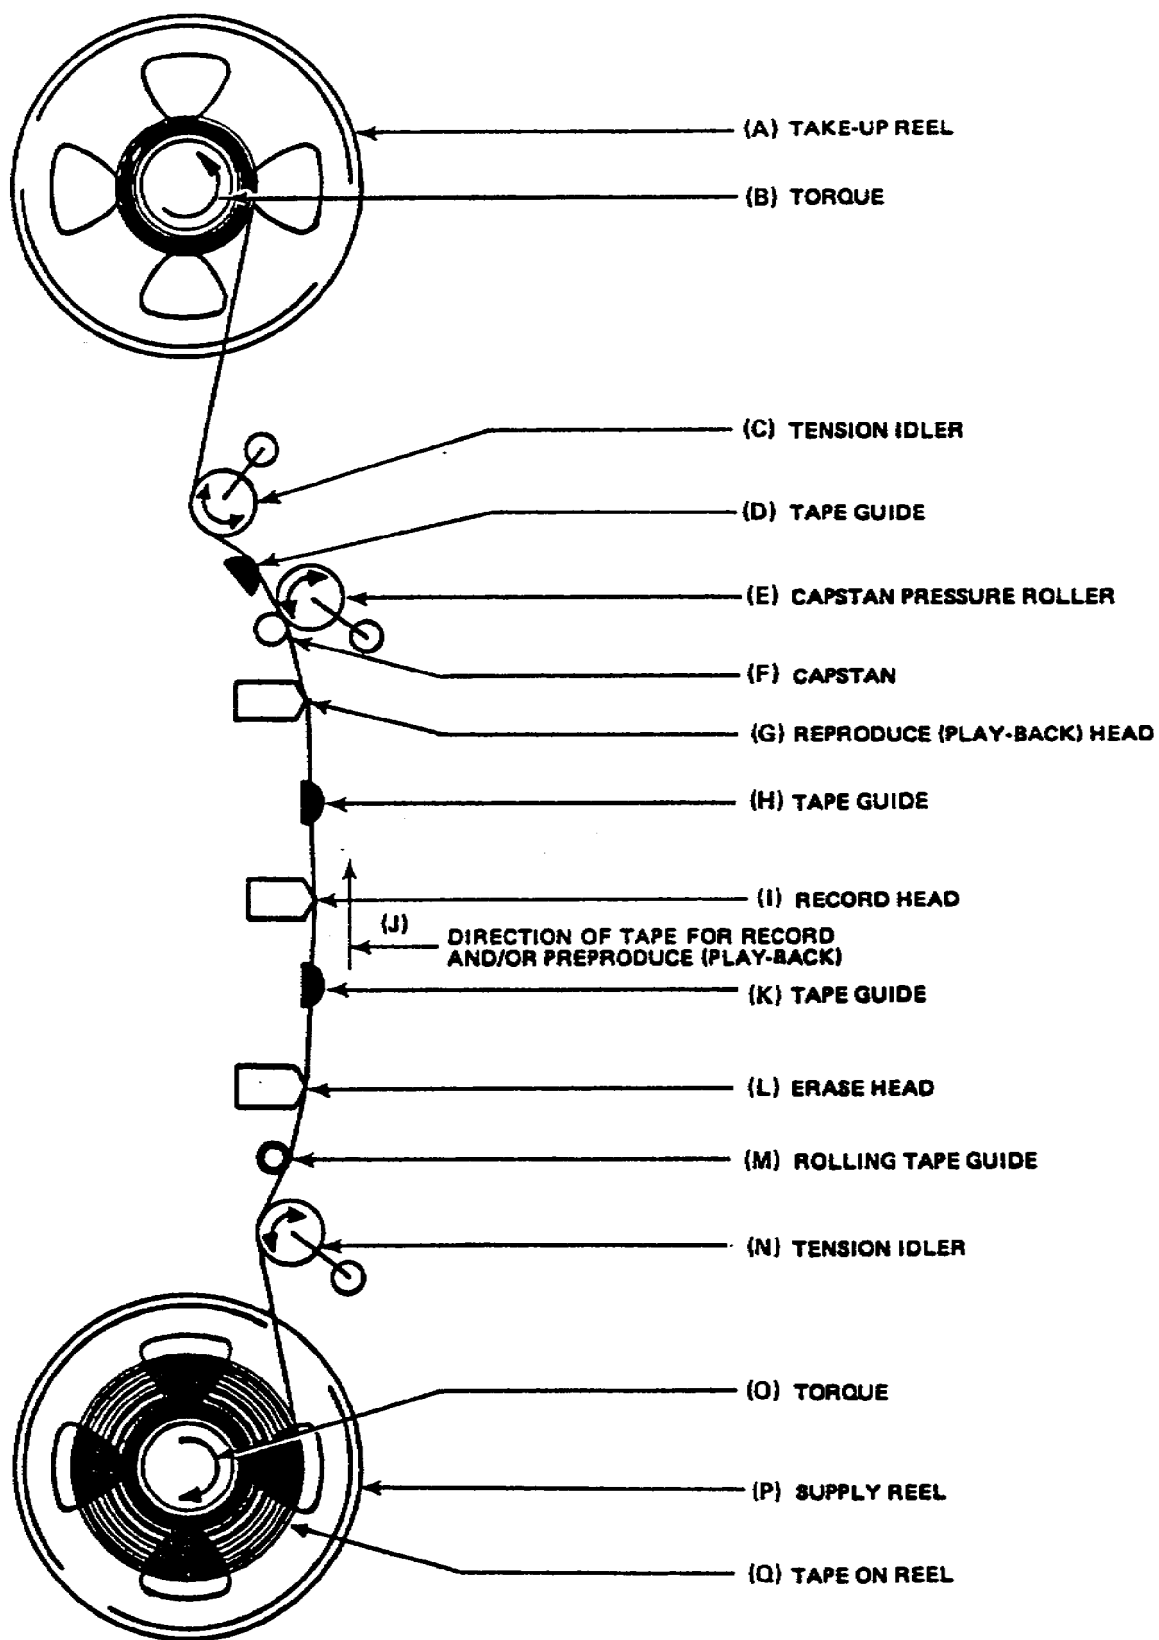
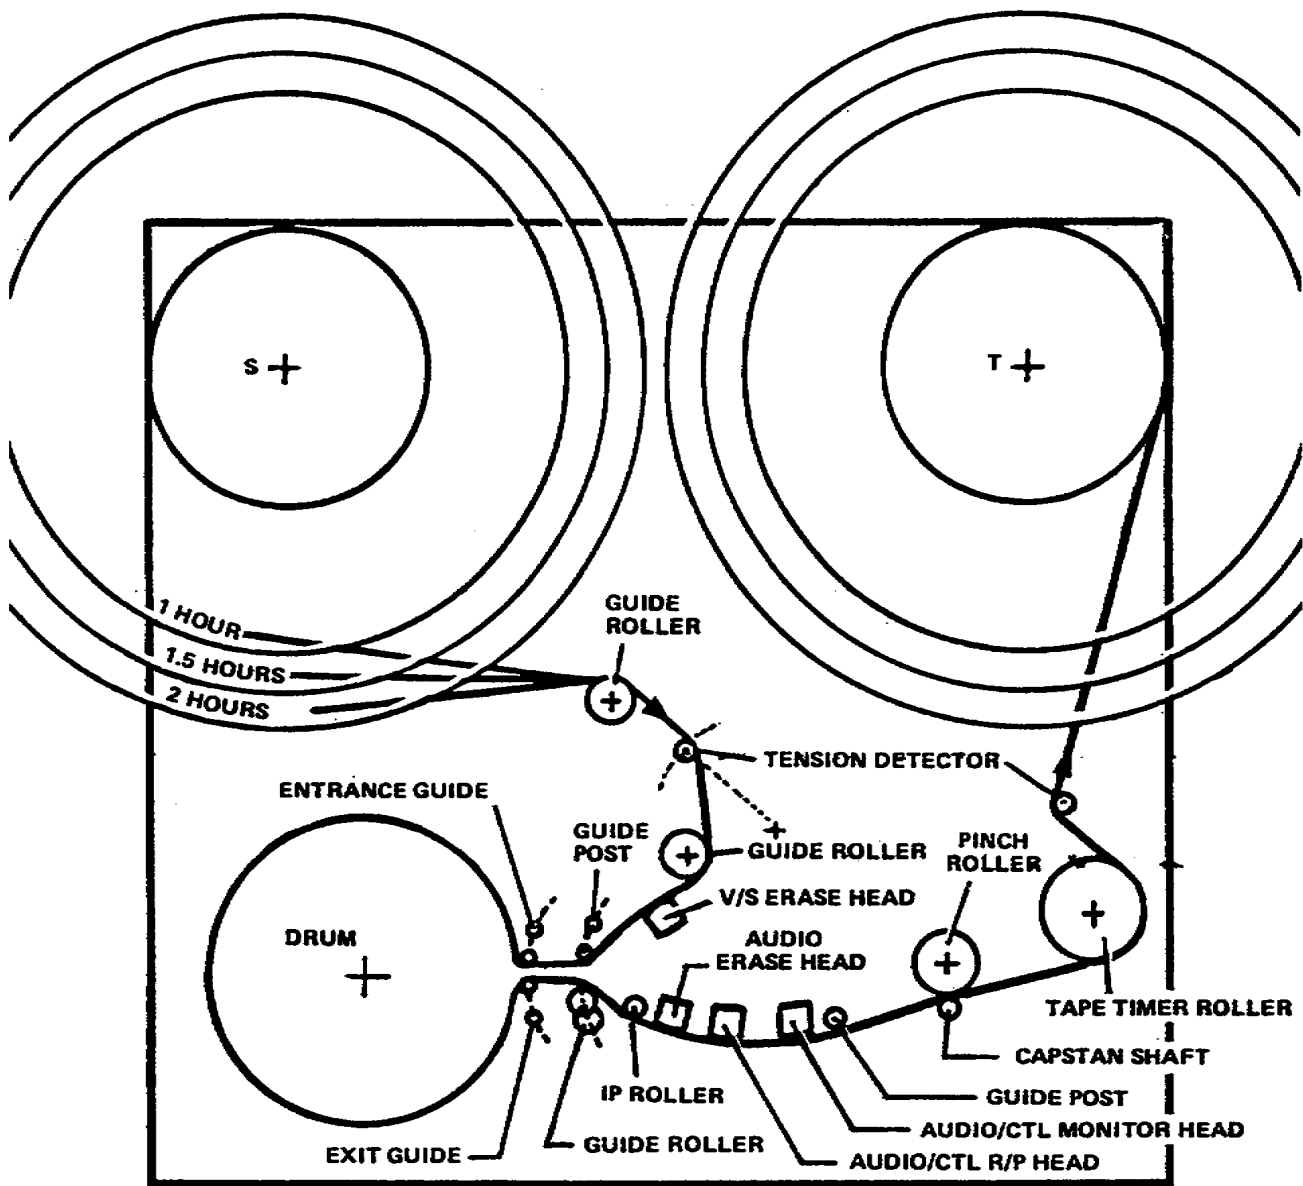

Figure 1-9a. Tape transport mechanism
Figure 1-9b. Helical scan videotape transport
2. Good quality tape transports have the features of the mechanisms illustrated (fig 1-9a and 1-9b).
b. The tension idler ((c), fig 1-9a) holds a certain amount of tape in its loop. This spare amount of tape is temporarily let out during quick starts.
d. The tension idler ((m), fig 1-9b) and back-torque work together to smooth out irregularities caused by the rubbing of the tape against the supply reel ((p), fig 1-9a) sides, sticking together of tape layers, or other causes.
3. Again looking at Figure 1-9a, note that the tape is drawn from the tension idler, across the rolling tape guide, erase head, tape guide, record head, tape guide, and reproduce head. The force, which draws the tape across the heads at a constant speed, is provided by the capstan and the capstan pressure roller.